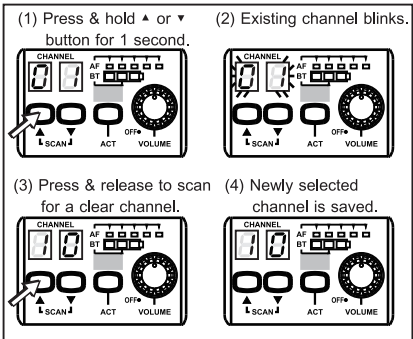

Fig. 3
- (B) MRM-24: Press and hold up or down SCAN button ⑨ to perform a channel scan. Existing channel ⑥ blinks to denote it is ready to accept parameter changes. During blinking, press and release SCAN button to scan and stop for an open channel. This new channel is now saved. If SCAN button is not pressed within six blinks, it stops blinking and reverts back to the existing channel. Fig. 3